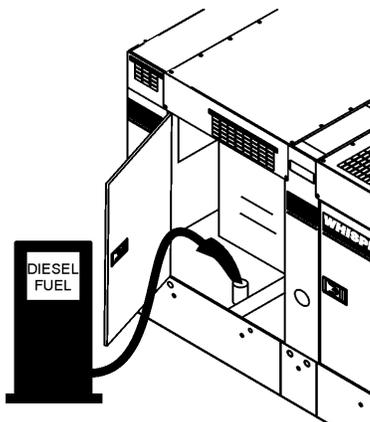

Figure 35. Fueling the Generator
2. Open cabinet doors on the “right side” of the generator (from generator control panel position). Remove fuel cap and fill tank (Figure 35).